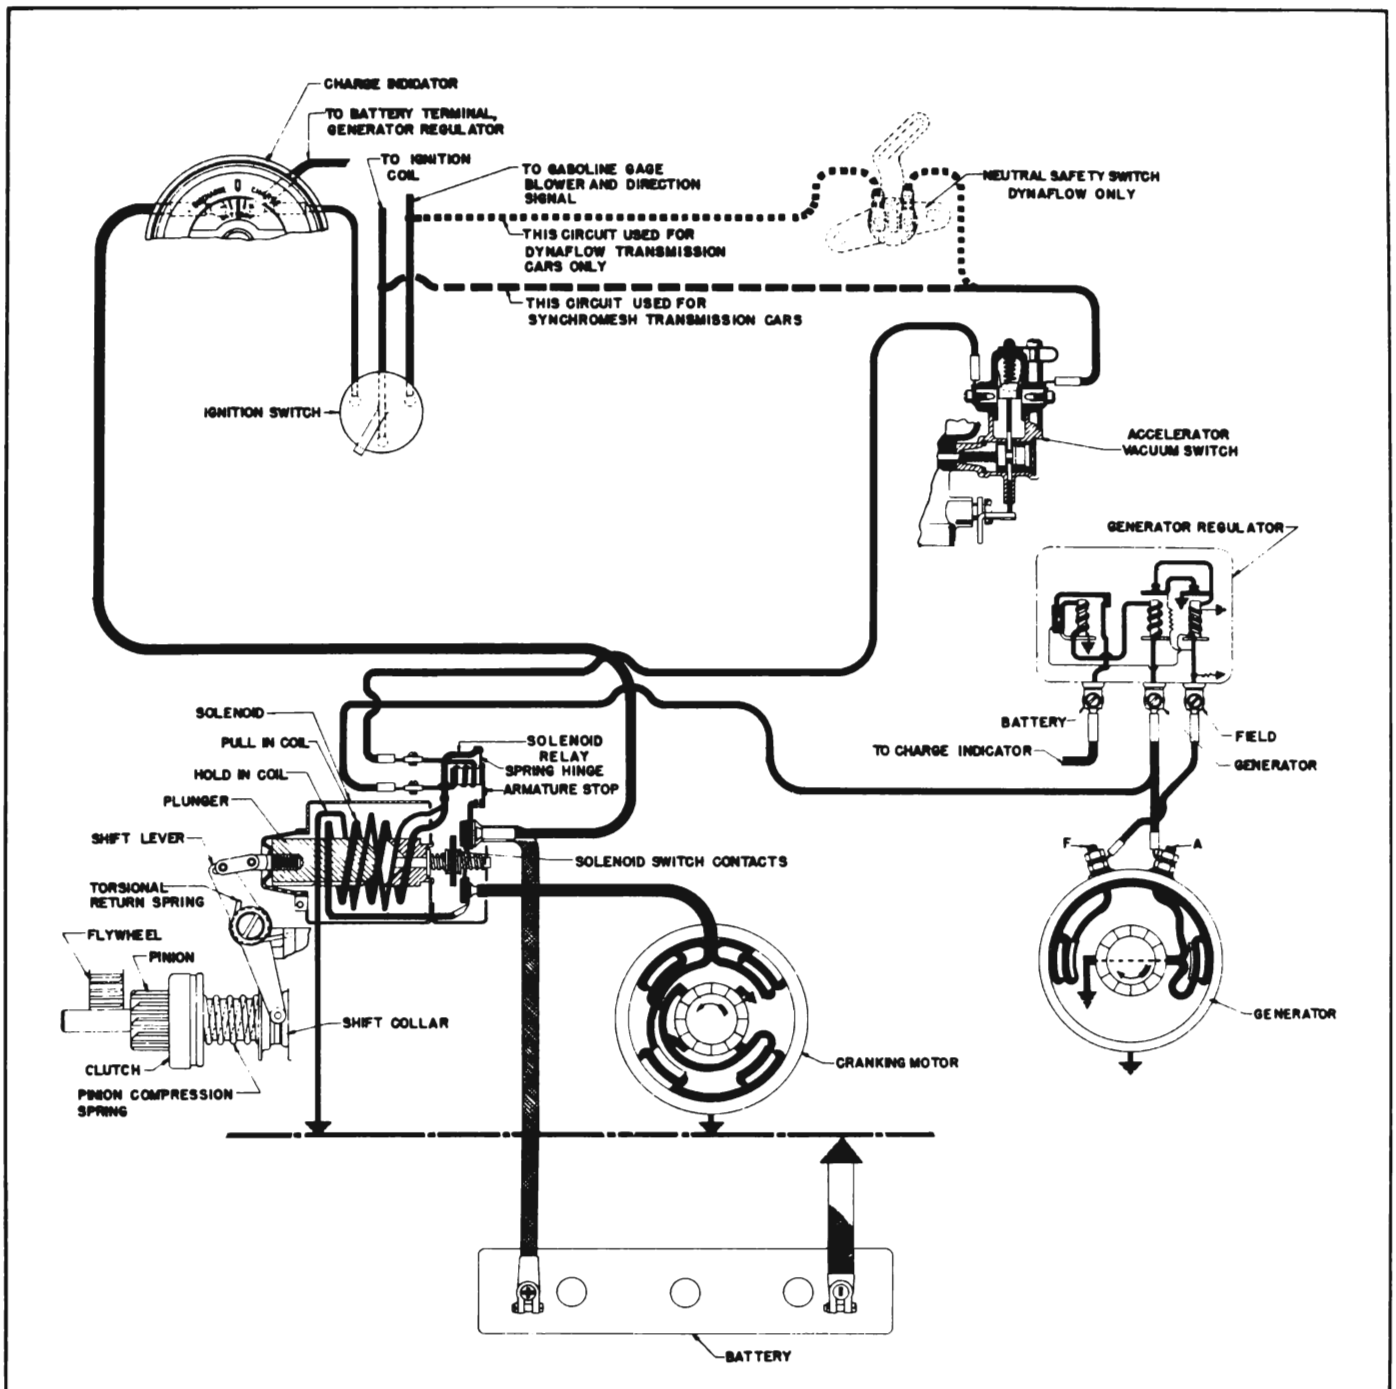

Figure 10-28—Cranking System Circuits
The units comprising the cranking system (fig. 10-28) are as follows:
7. *Neutral safety switch, only on cars equipped with Dynaflow Drive.* This switch is connected in series with the solenoid switch relay to prevent cranking of engine except when the transmission control lever is in either the neutral (N) or parking (P) position.
After the ignition switch is turned on, the cranking system is set in operation to start the engine by pressing down on the accelerator pedal. This causes the throttle to open and the accelerator vacuum switch contacts to close, thereby allowing current to flow from the battery through the ignition switch, vacuum switch, solenoid switch relay windings, and generator windings to ground. See figure 10-28. **NOTE:** *On Dynaflow Drive cars, the transmission control lever must be in neutral (N) or parking (P) position so that neutral safety switch is closed.*